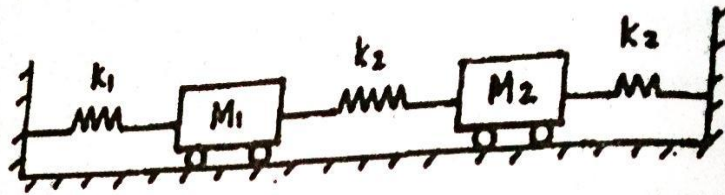

Fig. 4
- (ii) Explain the working principle of Frahm's reed tachometer. (6)
13. (a) (i) Using an example of your choice, explain the application of Lagrange's equations in vibrations. (10)
- (ii) Consider a bar undergoing free axial vibrations. Derive and obtain the governing differential equation. (6)
14. (a) Obtain the natural frequencies and modes shapes of the system indicated in Fig. 4.  $M_1 = 10 \text{ kg} = M_2$ .  $K_1 = 300 \text{ N/cm}$  and  $K_2 = 200 \text{ N/cm}$ .